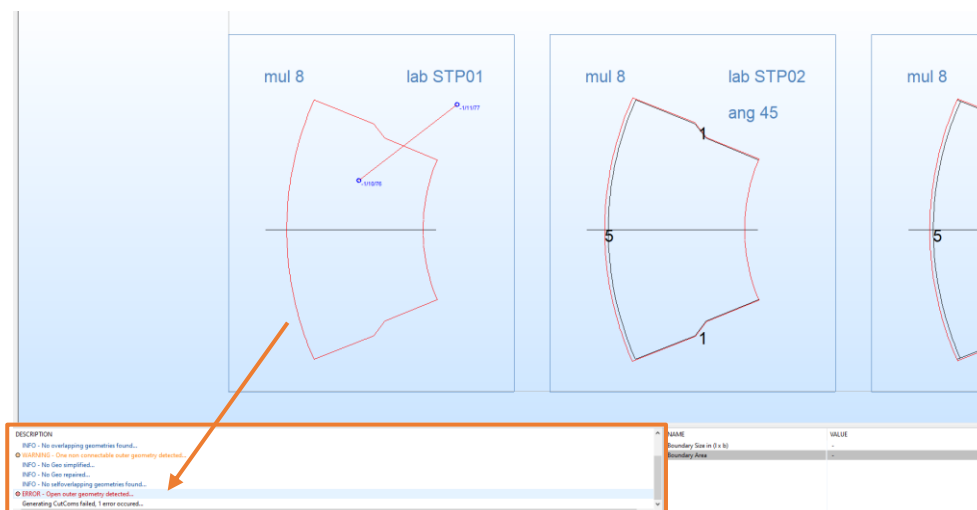

Figure 123
- If our dxf file contains any unassignable geometries or label objects, or if there are any unknown NestKing Commands on layer 9 an error message will be displayed in the Description Box (Figure 123). In this case we need to proceed with section 5.6. Error Handling on 67 first.